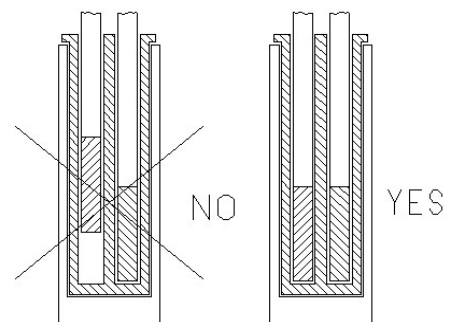

Fig.3
- Calibration with a reference: take care to position the two probes, the standard one and the calibration one, at the same dept and as close together as possible (figure 3).